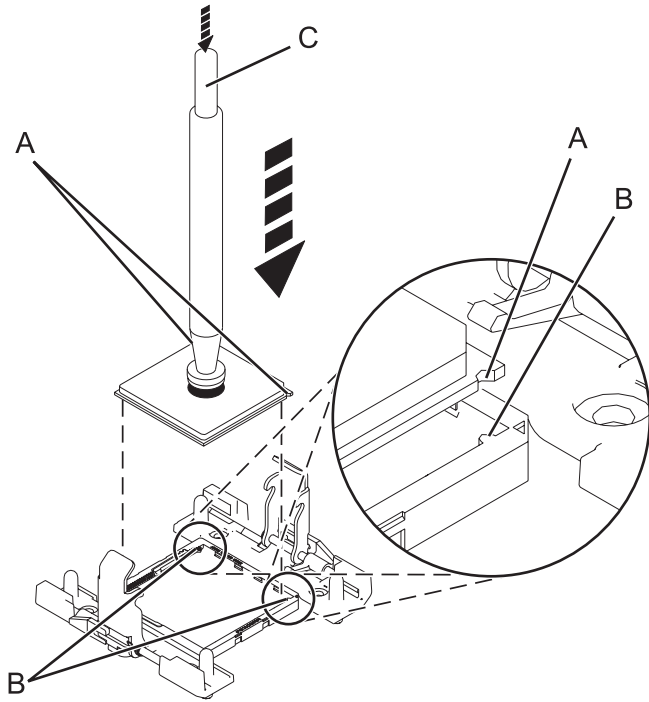

Figure 7. Installing the system processor modules
- c. Lower the system processor modules on to the board using the two keyed notches **(A)** on the processor module and two keyed corners **(B)** on the processor socket for alignment. Release the vacuum from the pen by pushing the button **(C)**. See Figure 7 on page 9.